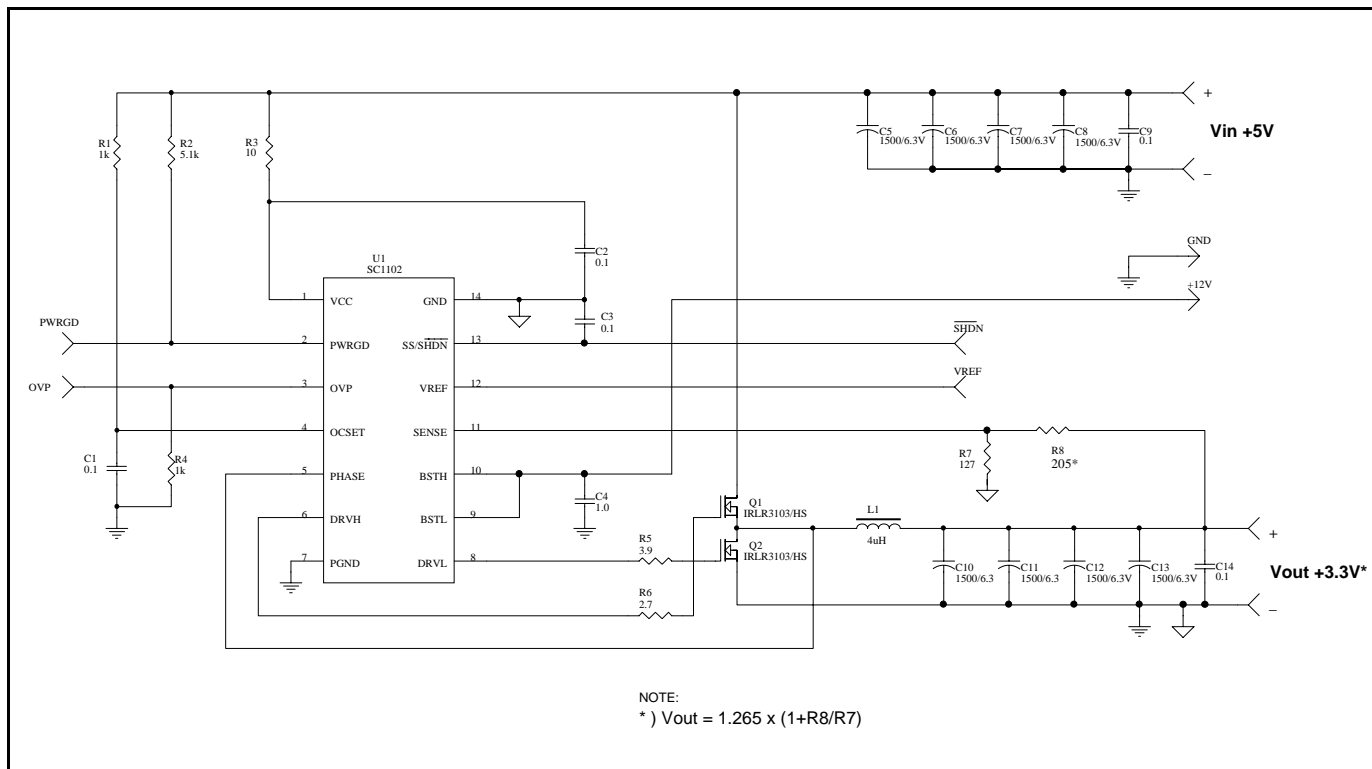

Figure 1.
(1) Specification refers to application circuit (Figure 1.).
The output voltage of the synchronous converter is set and controlled by the output of the error amplifier. The external resistive divider reference voltage is derived from an internal trimmed-bandgap voltage reference (See Fig. 1). The inverting input of the error amplifier receives its voltage from the SENSE pin.